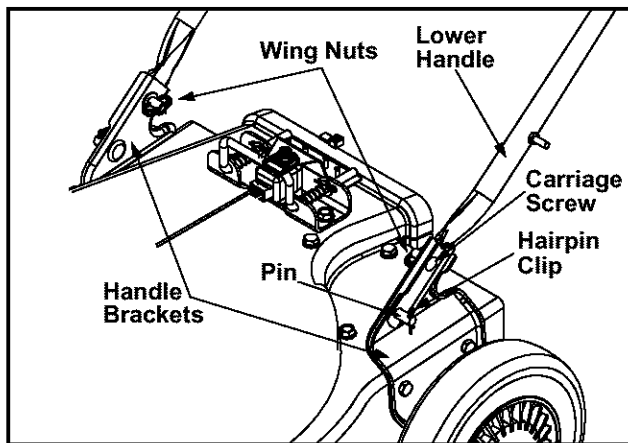

Figure 4
4. Remove the hairpin clips from the handle brackets and the carriage screws and wing nuts from the lower handle. See Figure 4.